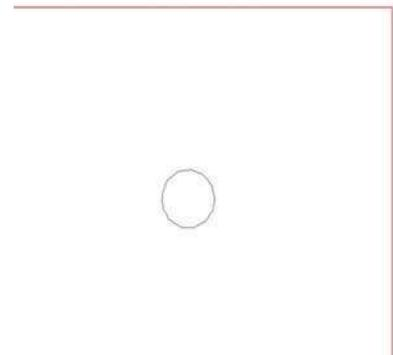

Figure 4: Positioning an anchor column.
STEP 4: Position the cursor on the location where you want to put the anchor column and left click. The center point of the selected location will populate (Figure 4).